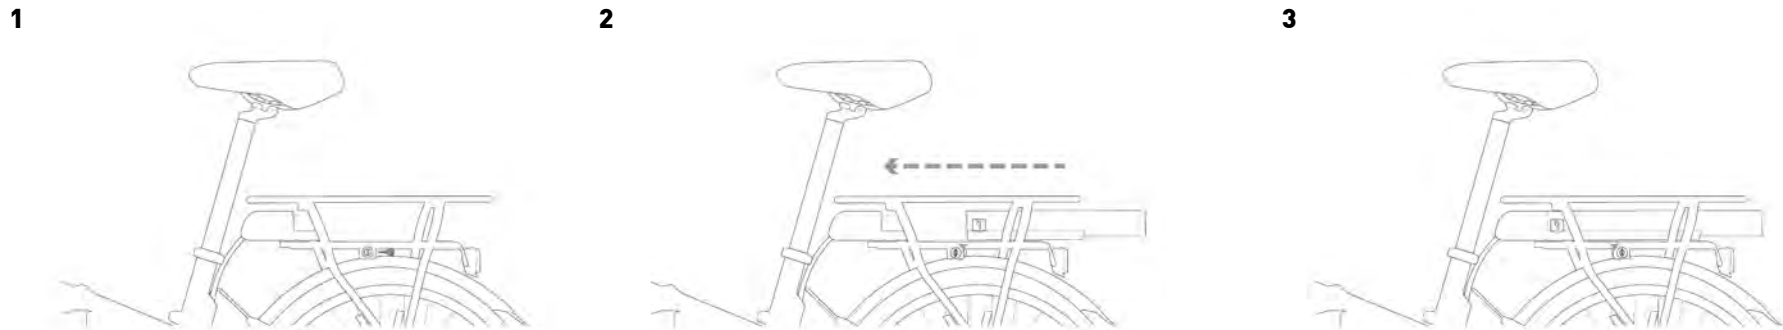

FIG. 7
1. Insert the battery release key in the slot on the left front part of the luggage rack and turn them counterclockwise (Ref. 1- 2- Figure 7);
2. Insert the battery, making sure to align the guide in the housing with the one in the lower part of the battery. Press the battery until you hear the click of correct insertion (Ref. 2 - Figure 7);
3. Turn the key clockwise (to lock the battery) and remove it (Ref. 3 - Figure 7).